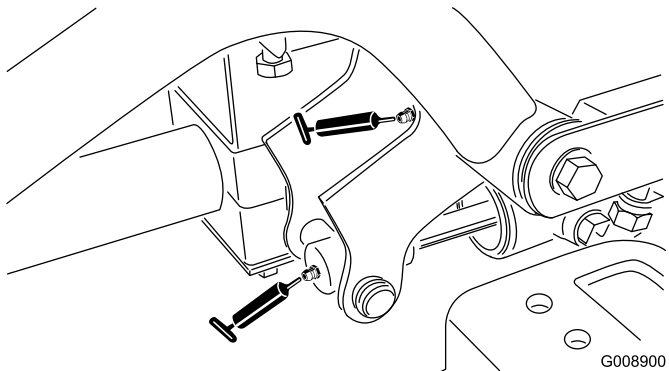

Figure 42
- Right front lift arm pivot and lift cylinder (2) (Figure 42)